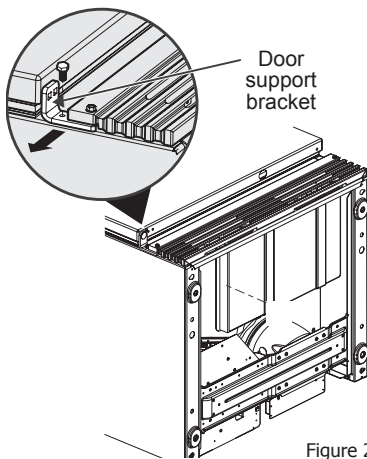

Figure 2
5. FOR GLASS DOOR MODELS ONLY - Remove bottom door support bracket and screw opposite the door hinge using a 3/8" socket wrench. See Figure 2.